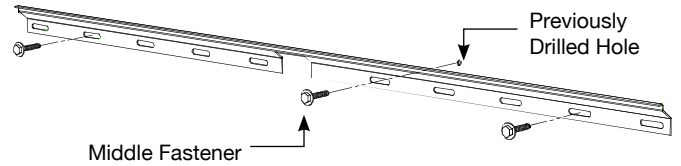
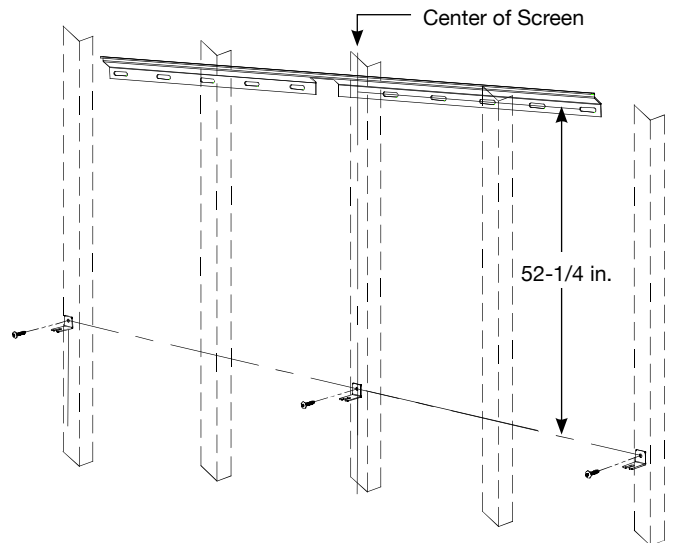

Figure 2
Figure 3
6. Install (1) 1/4" x 1-1/2" bolt and (1) washer through middle of bracket into previously drilled hole, leaving 1/2" of the bolt extending from wall. Use carpenter's level to make sure bracket is properly level (Figure 2).
7. Position level on top of wall bracket. Move bracket until level. Drill (2) holes for the other bolts in wall studs.
8. Install the other (2) 1/4" x 1-1/2" bolts and (2) 1/4" washers in the previously drilled holes. Tighten all bolts against wall bracket.
9. Measure down 52-1/4" on center and mark spot. Move right and left of screen until wall studs are found and mark (Figure 3).
10. Install the (3) screen brackets using: